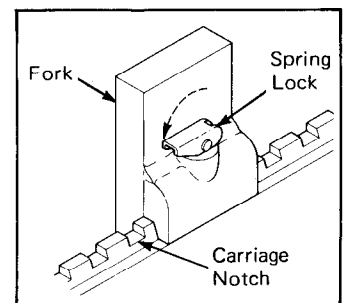

Figure 21. Lock Fork in Place
4. Lock the fork in place by pushing the lever down as shown in Figure 21. Make sure the pin is engaged in the notch.